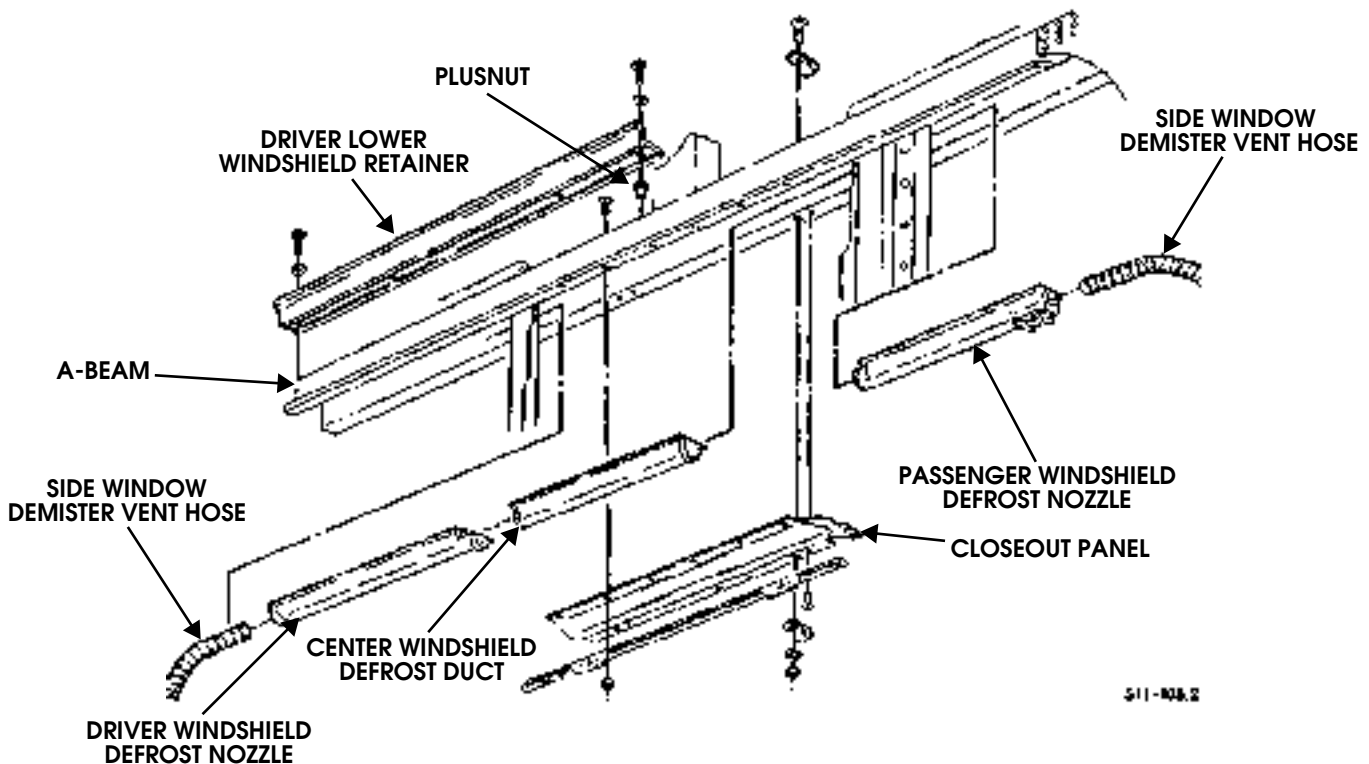

Figure 11-24: Windshield Defrost Ducts and Nozzles
4. Remove twelve screws, nuts, washers, and closeout panel from A-beam (Figure 11-24).
1. Install center windshield defrost duct into A-beam (Figure 11-24). Align both ends with adjacent duct and insuring a leak-free overlap joint.
5. Remove four screws, lockwashers and passenger side lower windshield retainer from A-beam. Remove plusnuts (Figure 11-24).
1. Slide side window demister vent hose on defrost nozzle (Figure 11-24).
2. Carefully fit defroster nozzle and demister vent hose into A-beam while making sure that it aligns and creates a leak-free overlap joint with the center duct (Figure 11-24).
3. Remove four screws, lockwashers and driver's lower windshield retainer from A-beam. Remove plusnuts (Figure 11-24).
6. Remove defrost nozzle from side window demister hose (Figure 11-24).
1. Slide side window demister hose on defrost nozzle (Figure 11-24).